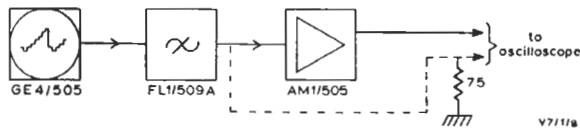

Fig. 1.7. AM1/505: Distortion Test Circuit
8. Set up the GE4/505 generator, the FL1/509A filter and the AM1/505 amplifier as shown in Fig. 1.7.